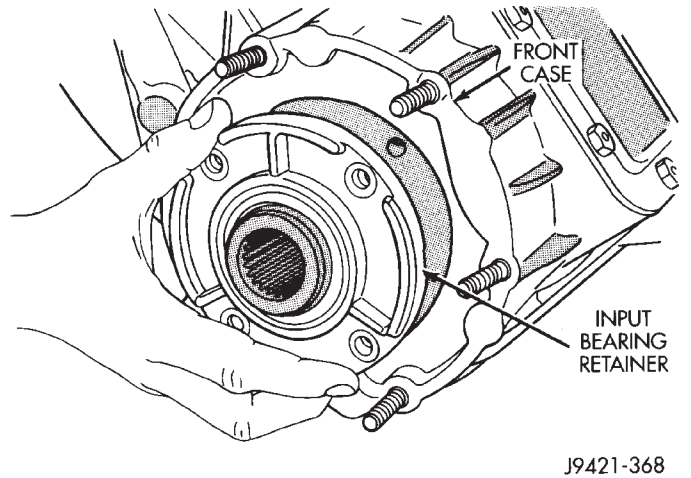
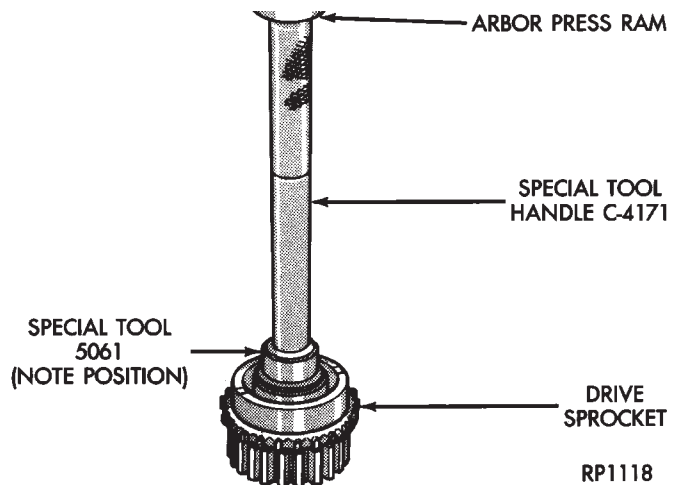

Fig. 46 Bearing Retainer Installation
Fig. 56 Installing Drive Sprocket Rear Bearing
(9) Install input (front) bearing retainer on front case (Fig. 46). Tighten retainer bolts to 21 N·m (16 ft. lbs.) torque.
(d) Install new **rear** bearing (Fig. 56). Press bearing in until 4.6 mm (3/16 in.) below edge of bore as shown in Figure 46.